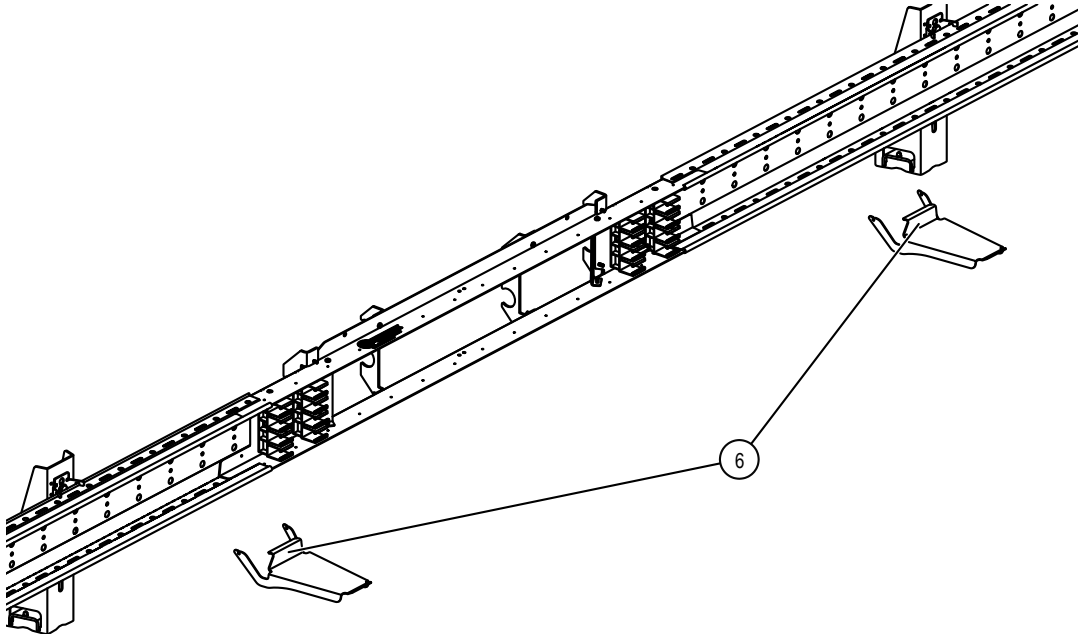

Fig. 48: Hook auxiliary console (6) onto the ProShell support profile
1. Hook auxiliary consoles (6) onto the ProShell support profile rails (see Fig. 48).